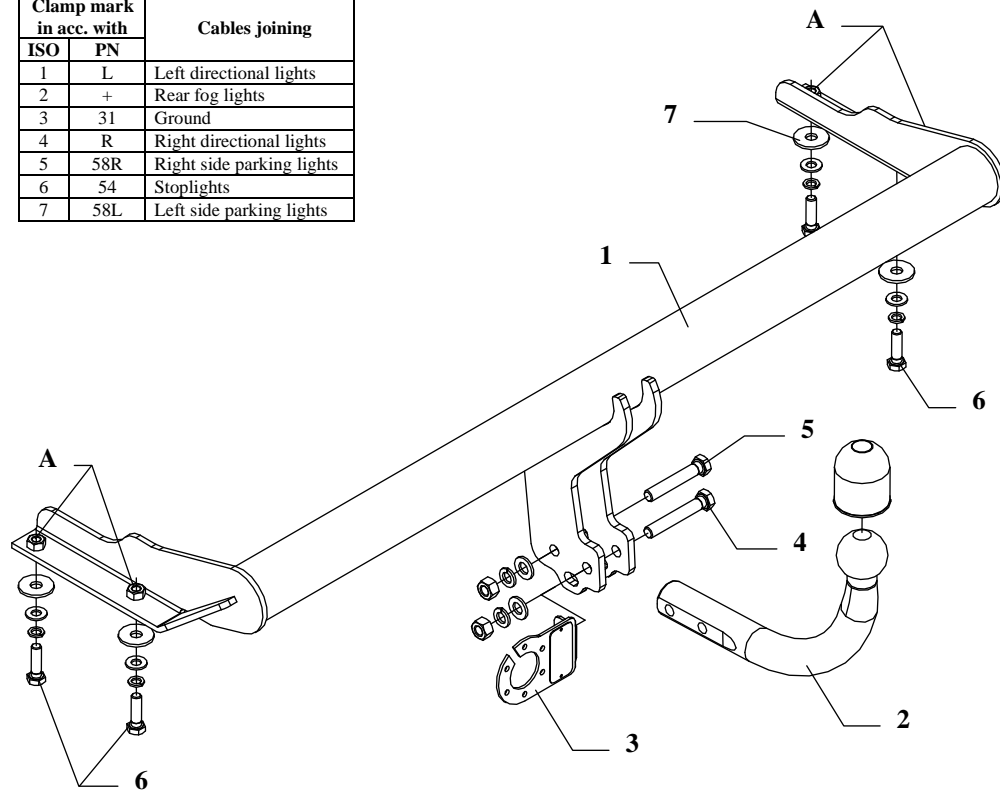

Fig. 1
5. Fix tow ball (pos. 2) using bolt M12x75mm (pos. 4) and M12x70mm (pos. 5). With bolt M12x75mm fix also a socket plate (pos. 3). See figure 1.